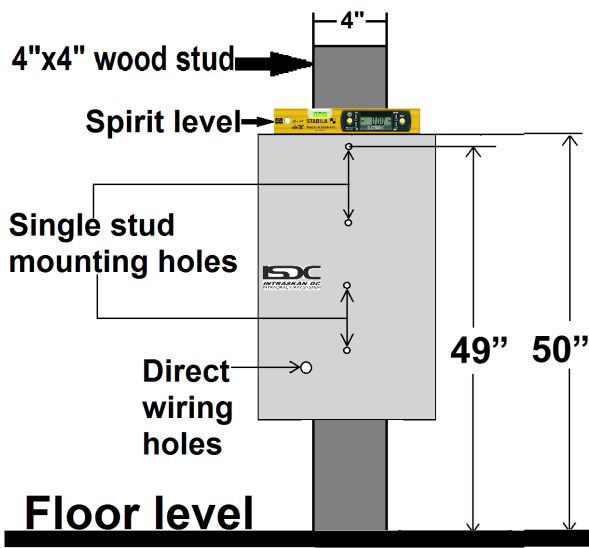

Figure 9: Mark and drill 4 mounting holes using 5/16-inch wood drill bit.
- Locate the 4x4 wood stud to mount the base unit plate and mark template holes (Ensure that the template is level on the wall using spirit level). Drill 5/16" pilot holes to the depth of 3.93" as shown in Figure 9 .